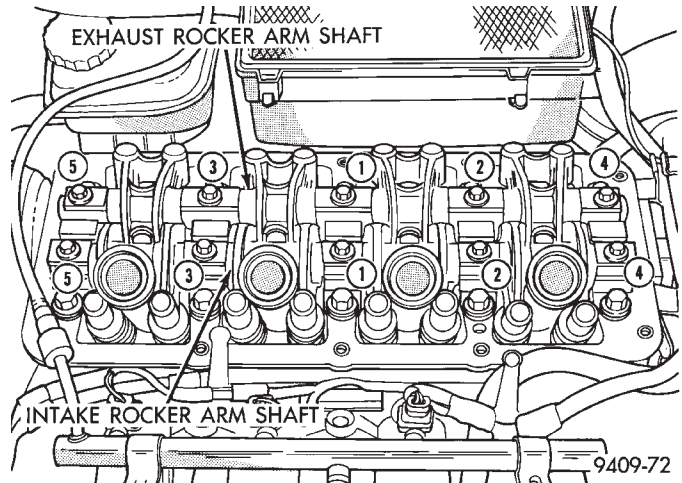

Fig. 14 Rocker Arm Shaft Tightening Sequence
(5) Install front camshaft seal. Camshaft must be installed before the camshaft seal is installed. Refer to procedure outlined in this section.
(6) Install cylinder head. Refer to procedure outlined in this section.
(7) Install camshaft sprocket and tighten to 115 N·m (85 ft. lbs.).
(8) Install inner timing belt cover.
(9) Install timing belt tensioner and timing belt. Refer to procedures outlined in this section.
(10) Install rocker arm assemblies in correct order as removed. Tighten the rocker arm assemblies in sequence shown in (Fig. 14) to 28 N·m (250 in. lbs.).